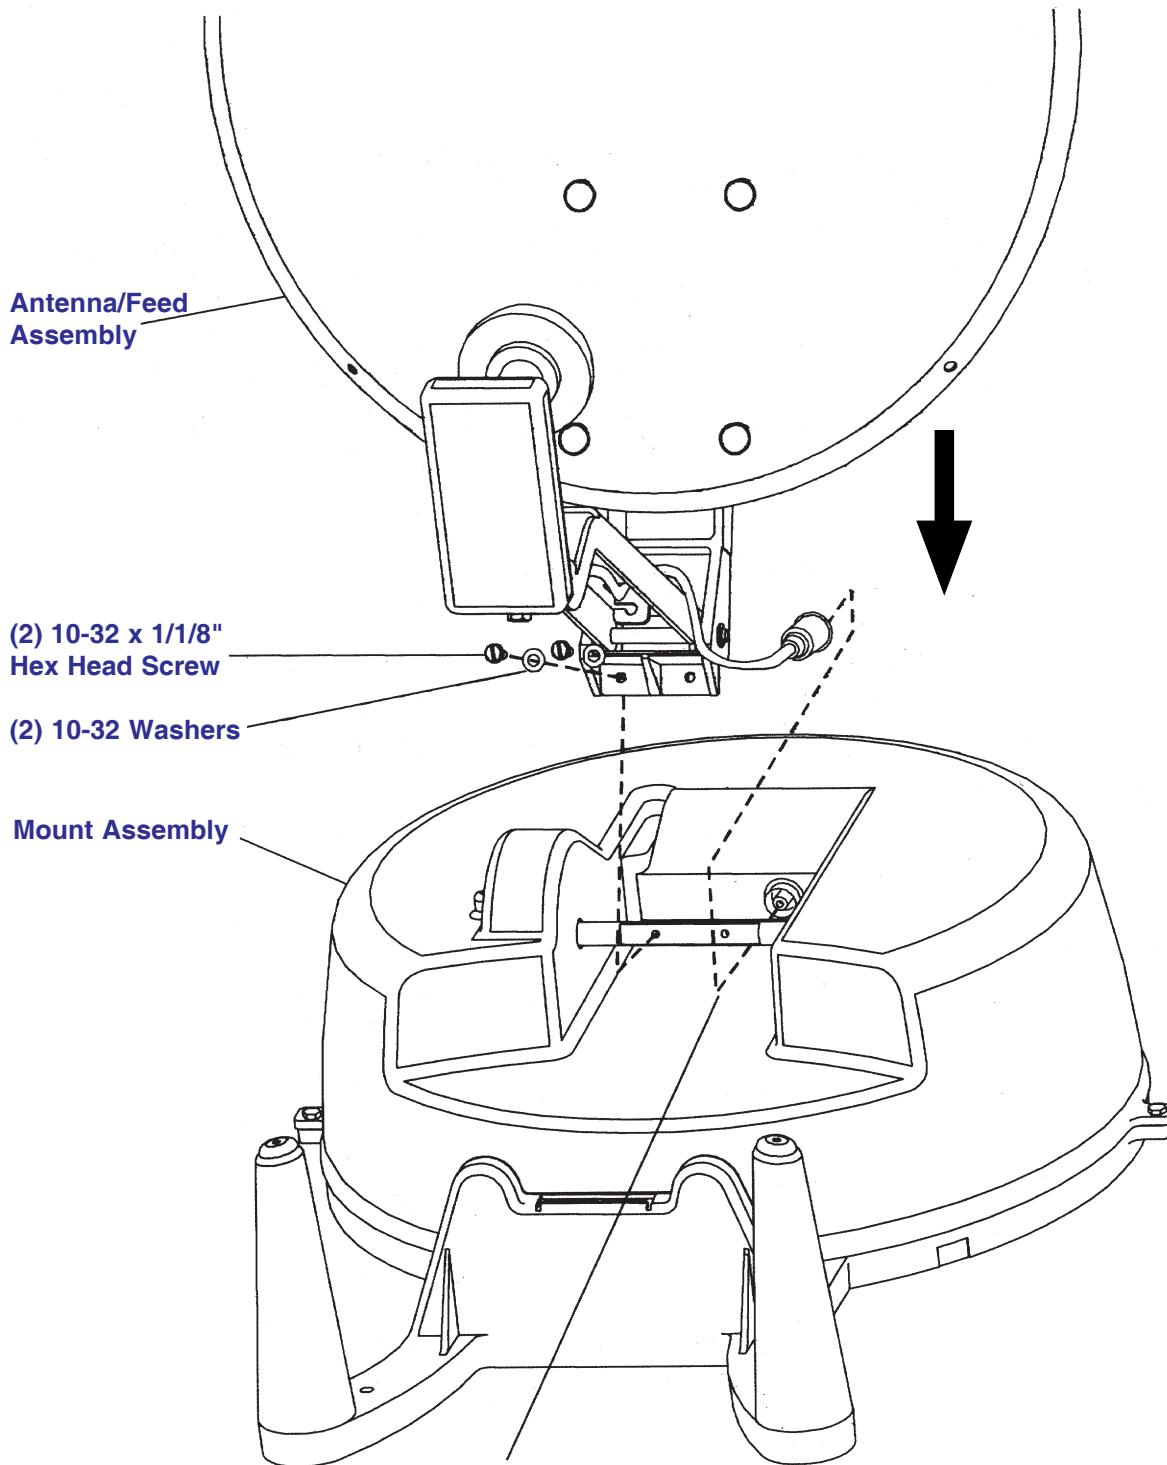

Figure 10
6. Attach coax cable from antenna assy. to jack on mount, see Figure 10. **Make sure to feed coax cable under the shaft.** Slide weather boot over boot collar.
7. Attach antenna/feed assembly to mount with (2) 10-32 x 1-1/8" screws and washers provided, see Figure 10. (Torque: 6 ft. lbs.)